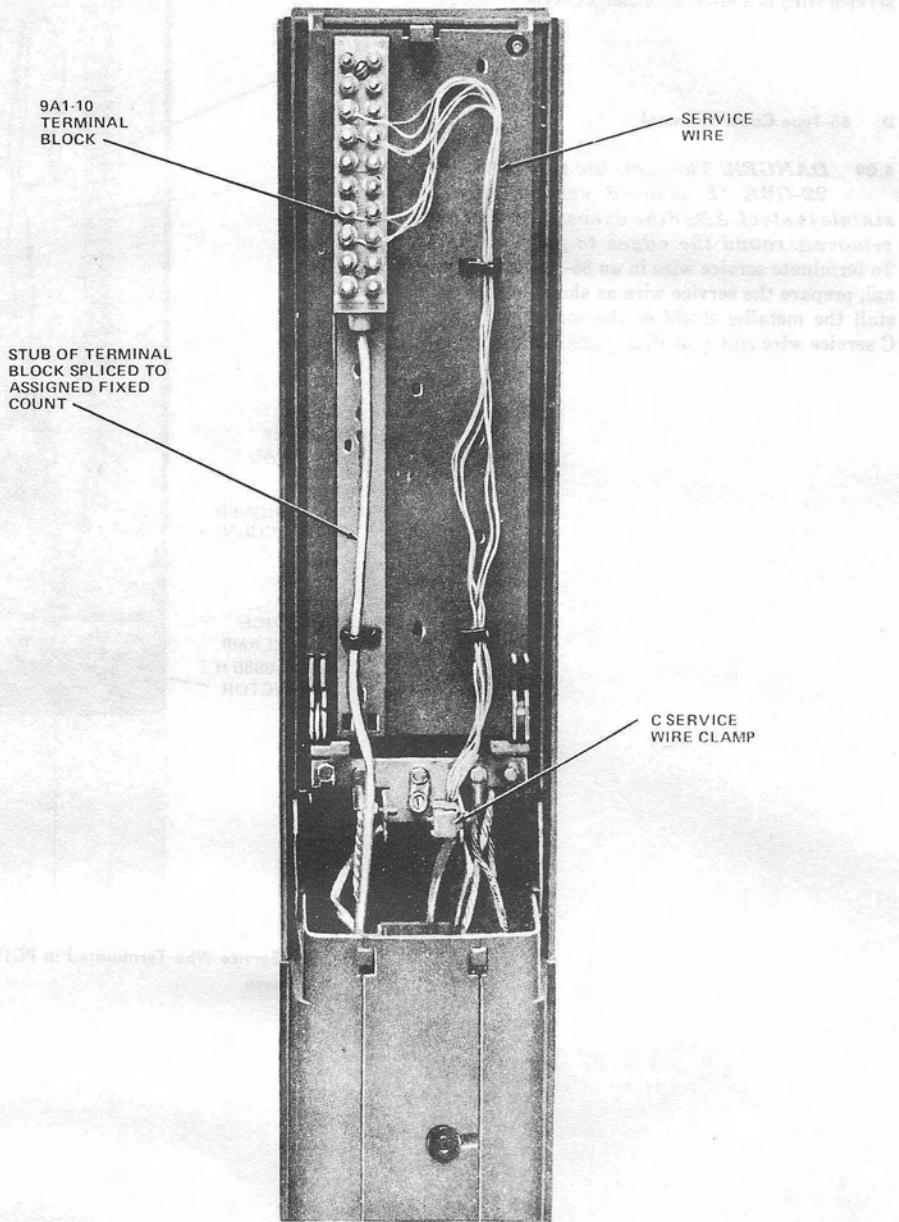

Fig. 10—Service Wires Terminated in 85-Type Cable Terminal
4.10 An example of terminating the conductors of the service wire to a terminal block in an 85-type cable terminal is shown in Fig. 10.